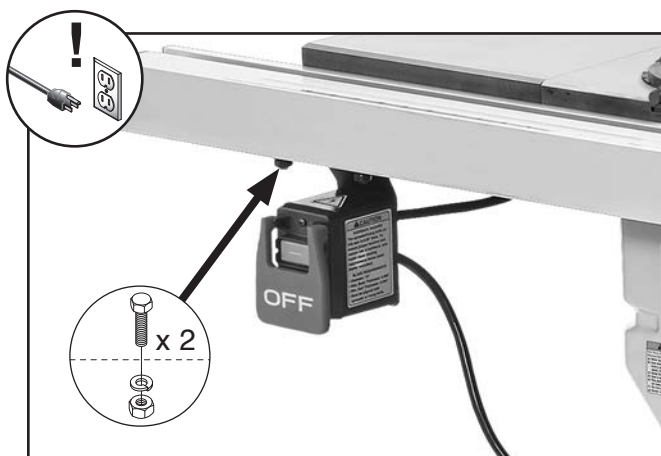

Figure 3. Location of ON/OFF switch fasteners.
4. Remove ON/OFF switch. Retain (2) hex bolts, lock washers, and hex nuts for use in **Steps 9–10** (see **Figure 3**).